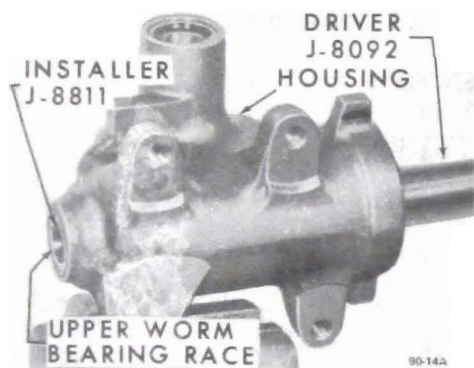

Figure 90-7 Installing Upper Worm Bearing Race
2. Inspect worm bearings and races for damage or excessive wear. Replace bearings if necessary. The lower worm bearing race is not replaced separately, but is serviced with the worm bearing adjuster. If upper worm bearing race is defective, drive race out of housing using Remover J-8810 with driver handle J-8092 and install new race using Installer J-8811 with driver handle J-8092. See Figure 90-7.